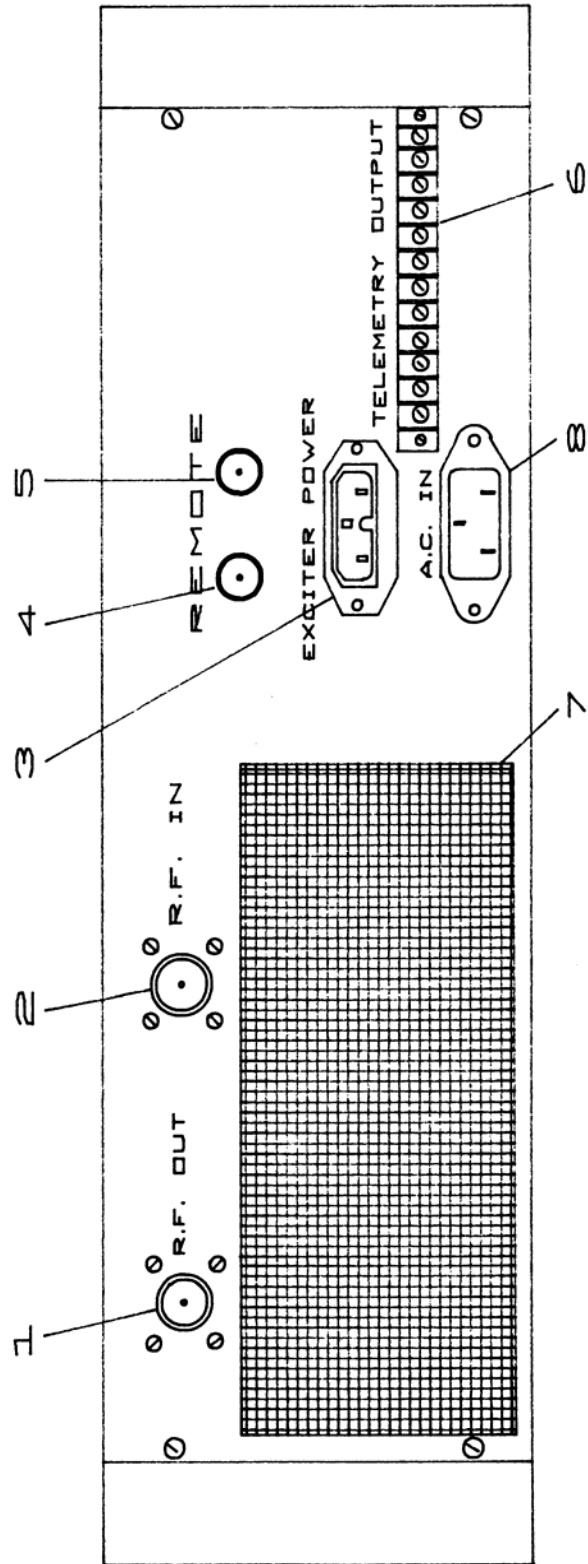

FIGURE 2 REAR PANEL
- 2) Remove the fixing screws of the "N" type output connector (1.Fig.2).
- 2) Connect (1.Fig.2) a non inductive dummy load 50 ohm / 250W to RF output with a through wattmeter (e.g. BIRD mod.43) in series as shown in SETUP 1.